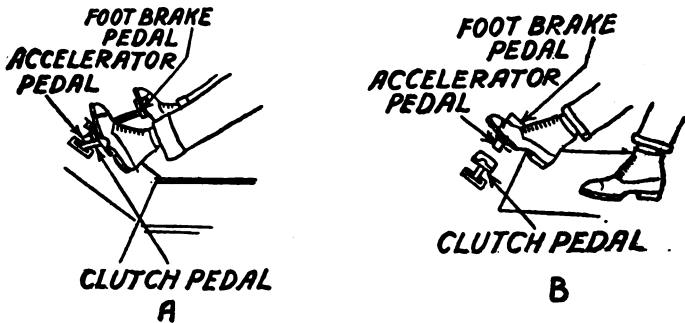

Fig. 8.—A. Always press out the clutch before shifting the gear lever. B. Press the accelerator pedal with your right foot.
You Are Ready to Go.—When the engine is running smoothly then (1) release the *hand* or *emergency brake* and at the same time hold the car with the *foot* or *service brake* as shown in Fig. 8, and *don't forget to do it* either.
(6) Now with the same foot press the *accelerator pedal*, see Fig. 8 again, which is connected with the throttle lever, until the engine picks up in speed; (7) let your foot up *gradually* on the *clutch pedal* when the clutch will begin to take hold and you will find your car slowly running along the road.